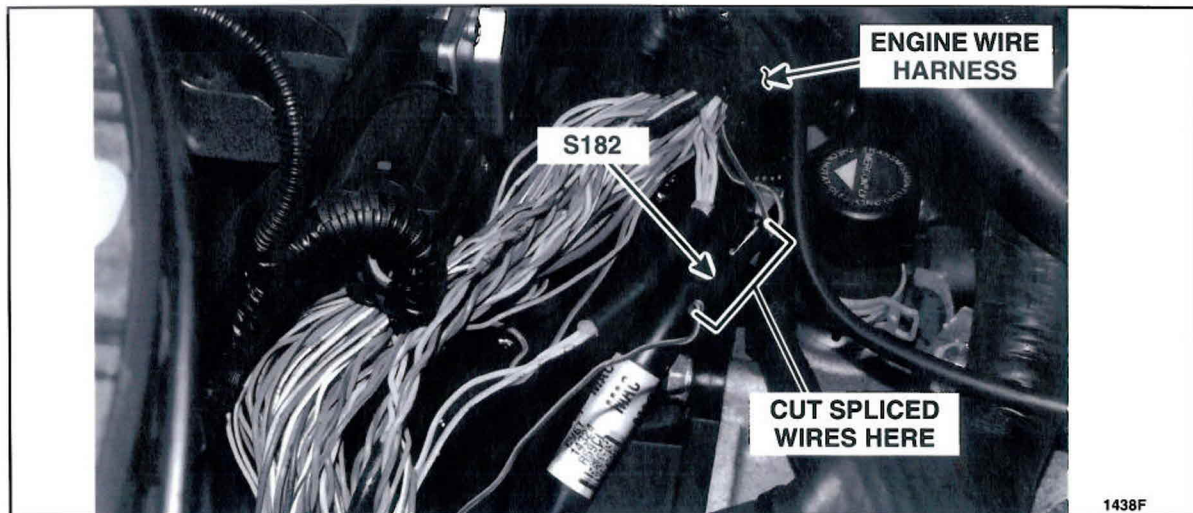

FIGURE 7
11. Cut the wires on each side of the splice S182 and strip off 19 mm (0.75 in) of insulation from each of the Gray/Brown wires. See Figure 7.